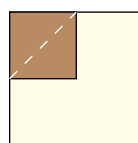
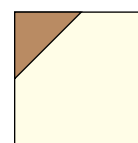

Fig. 1
Fig. 2
1. Place (1) 2 ½" Fabric C square on the top left corner of (1) 4 ½" Fabric D square, right sides together (Fig. 1). Sew across the diagonal of the smaller square from the upper right corner to the lower left corner (Fig. 1). Flip open the triangle formed and press. Trim away the excess fabric from behind the triangle ¼" away from the sewn seam (Fig. 2).